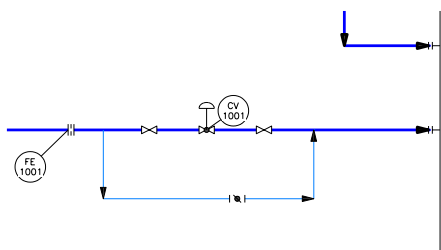

Figure 2-70 Location of the orifice
2. Place the restriction orifice on the pipe which is connected to the vessel, as shown in Figure 2-70.